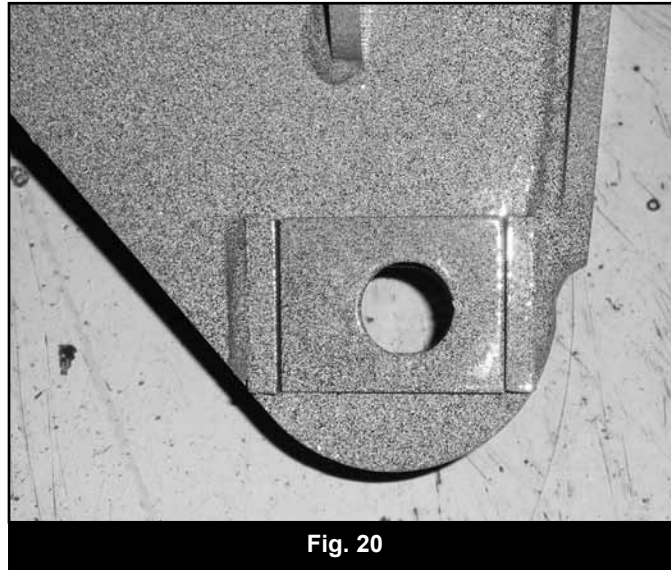

Fig. 20
62. Attach the track bar to the new bracket with the OE hardware. Turn the steering wheel to aid in aligning the track bar in the bracket. Install the provided cam washers (02019) between the alignment tabs on the bracket. The cam washers have an offset hole. Position the cam washer in the position that best centers the axle under the vehicle. Fasten with the OE bolt and nut. Torque hardware to 400 ft-lbs. (Fig. 20)